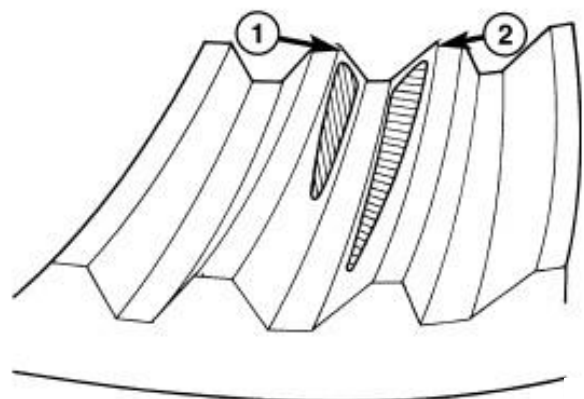

Figure 41
- The ring gear is too close to pinion gear, drive side toe (1) and coast side toe (2). Increase the backlash, by moving the ring away from the pinion gear using the adjusters (Figure 41).